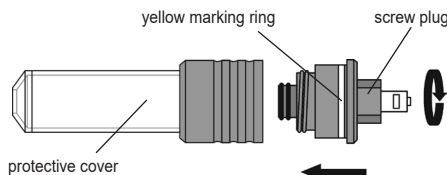

Fig. 2
- Screw the screw plug onto the protective cover until the yellow marking ring is no longer visible (fig. 2).
- If present, remove the glass syringe from the adapter with protective cover for glass syringes according to fig. 2 in reverse order: